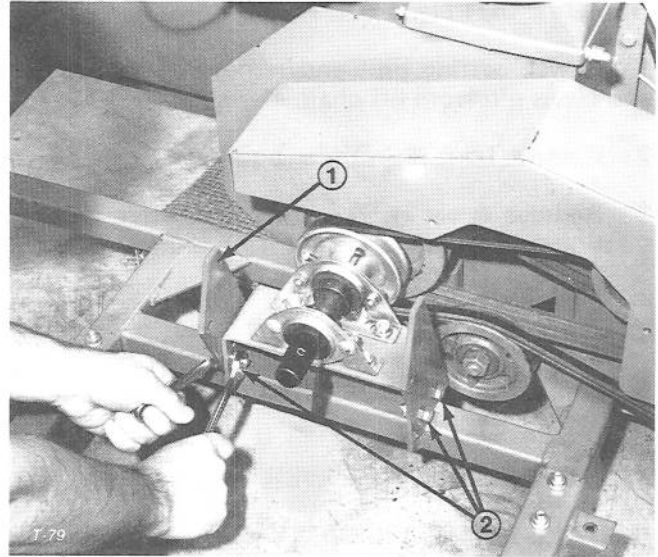

Figure 6
2. Align lifting lugs with mount holes in center frame, insert capscrews and secure with flange nuts (Fig. 6).